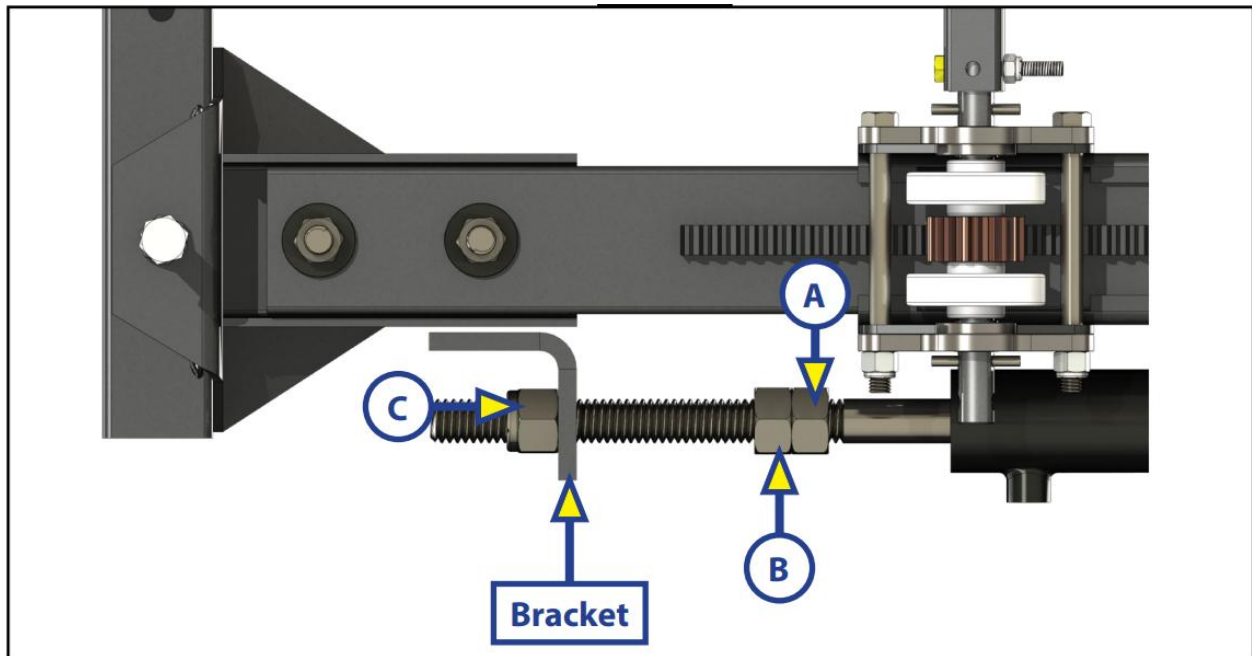

Figure 47. Hydraulic slide IN and OUT adjustment nuts on ram.
- 3. Referring to Figure 47, hold the jam nut in place with wrench (A).
4. Adjust nut (C) towards the bracket if the room does not seal.
5. Adjust the (C) nut away from the bracket if the room is too tight.
5. Referring to Figure 47, loosen and back off jam nut (A) from nut (B) to give nut (B) room for adjustment.
6. Adjust nut (B) away from the bracket if the room extends too far. Adjust nut (B) towards the bracket if the room does not seal.
7. Tighten jam nut (A) to nut (B).